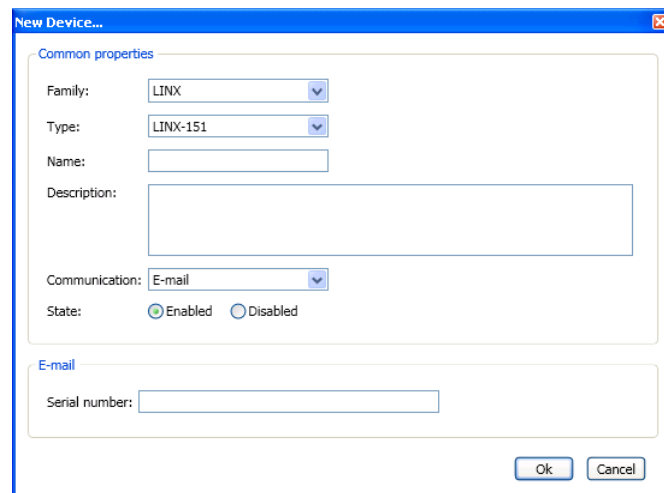

Figure 65: Add Device with Communication Mode **E-mail**
3. In the **New Device** dialog (see Figure 65) enter the following data: